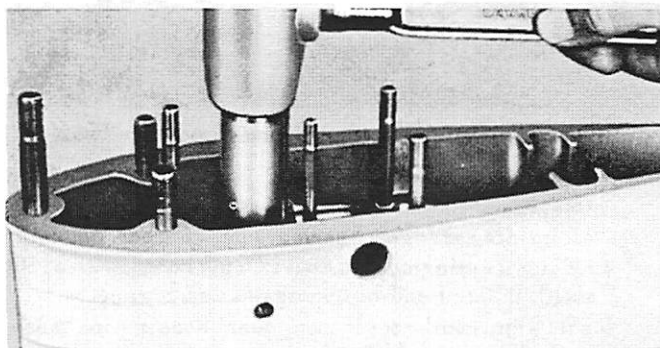

Figure 9. Removing Drive Shaft Needle Bearing From Gear Housing
3. Press bearing out with arbor press or tap on tool with heavy mallet to remove bearing. (Figure 9)